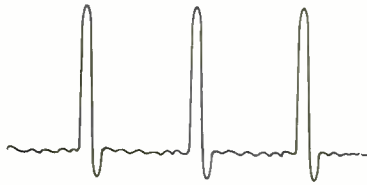

Fig. 2. Trumpet waveform miked on axis in anechoic chamber. From a Denon record made with pulse-code-modulation process.
**The Brass.** The trouble with the brass is eloquently demonstrated by Figure 2, a drawing of an oscilloscope trace made by a trumpet in full cry. The vicious spikiness of this waveform will never be revealed by any VU meter, and yet it has to be taken into account because any significant tampering with this crest will be audible. In jazz clubs you'll often see a trumpet played directly into a microphone. Apparently, the sound-reinforcement system can usually take this onslaught in stride. But it's murder on tape. I tried to record this trumpet waveform with a good cassette machine. Finally, I had to drop the recording level down to the point where the meters (peak reading) were barely stirring, and still the waveform peaks were appreciably abbreviated.